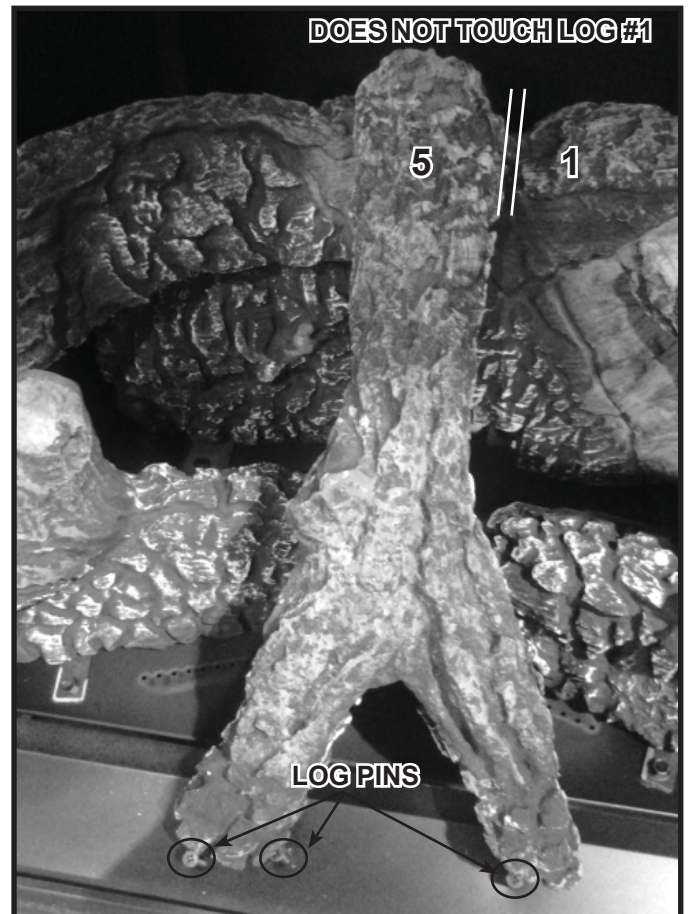

Figure 11. Log #5 in Position
**Log #5:** Place Log #5 into position. The forked end of Log #5 is positioned on the log pins as shown in Figure 11. The back end of Log #5 will rest on Log #4, but does not touch Log #1.